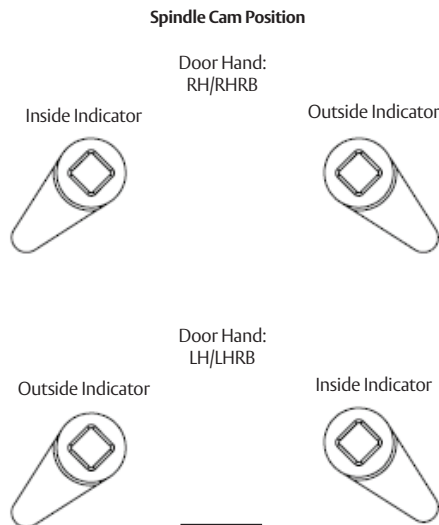

Figure 8
4. Position the spindle cam in the correct direction for door hand. (Figure 8)